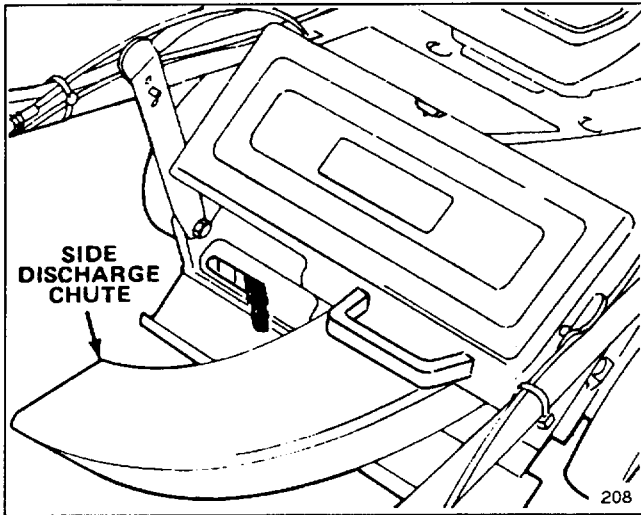

Figure 33
**1. Side Discharge Kit, Model No. 59112**—Installs in seconds. Rear mounted in place of the grass bag. Disperses clippings while trimming on both sides (Fig. 33).